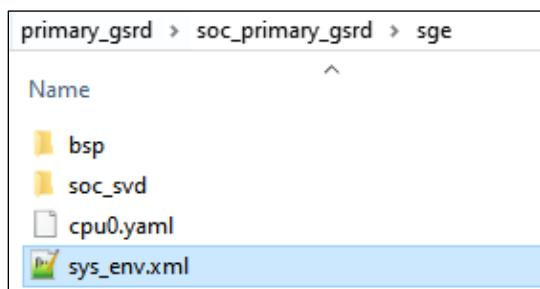

Figure 8.10. sys_env.xml File Created
11. Notice that after Generating the Design, it creates the sys_env.xml file in your Project Directory as shown in Figure 8.10.